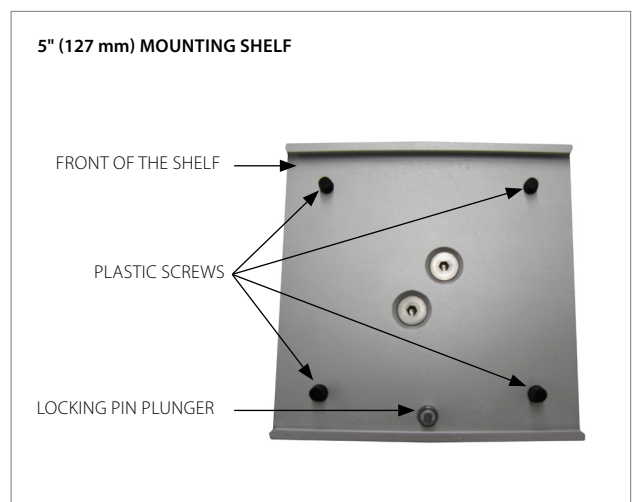

Figure 3
3. Release the *LOCKING PIN* and tighten the *PLASTIC SCREWS* by hand (Figure 3).